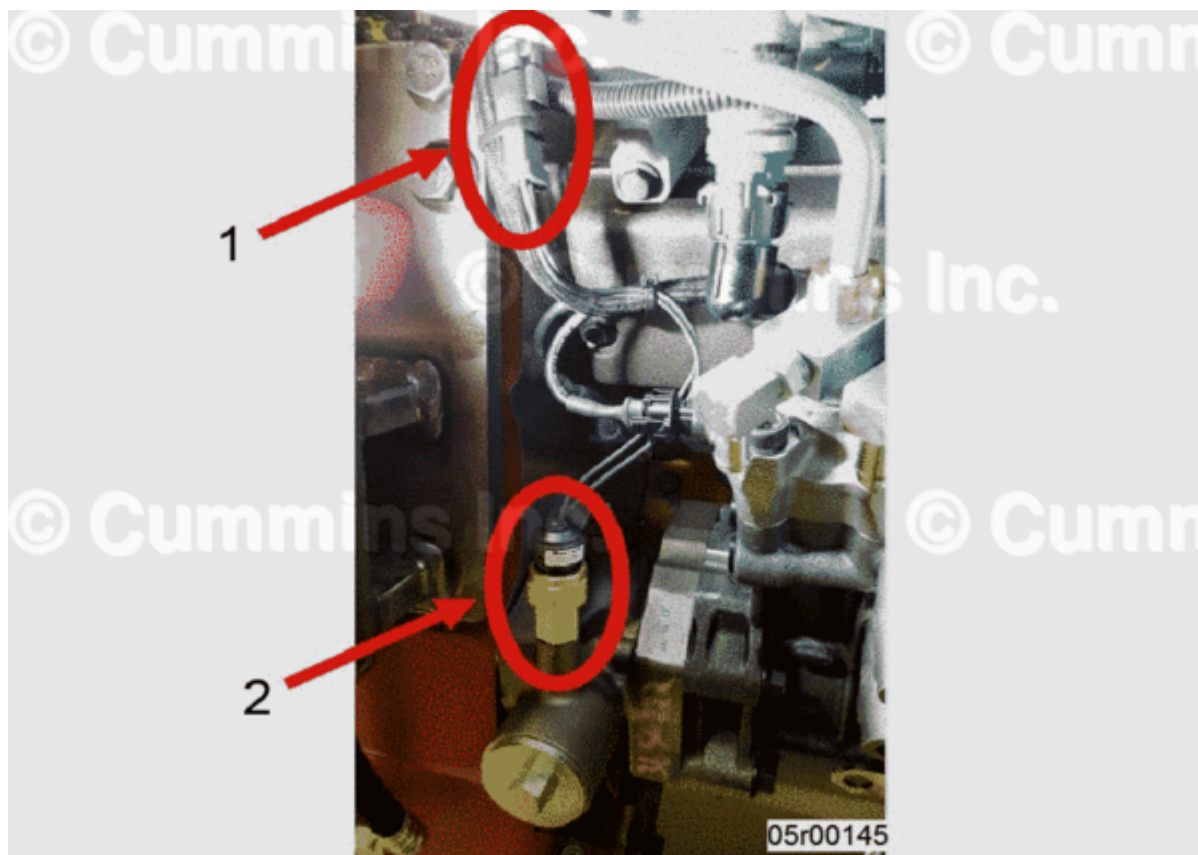

Figure 7. (1) Oil Pressure Switch, Part Number 4924925; (2) Reducing Adapter, Part Number 3976110.
4. Connect oil pressure switch, Part Number 4924925, to wire harness, Part Number 5417037. See Figure 7